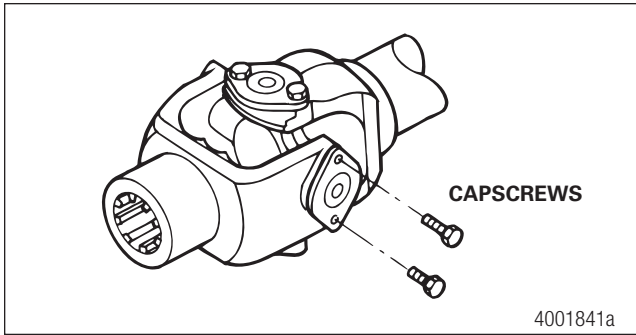

Figure 6.13
4. Align the cover plate holes and the yoke ear. Figure 6.13. Install the bearing cover plate flush against the milled surface of the yoke.